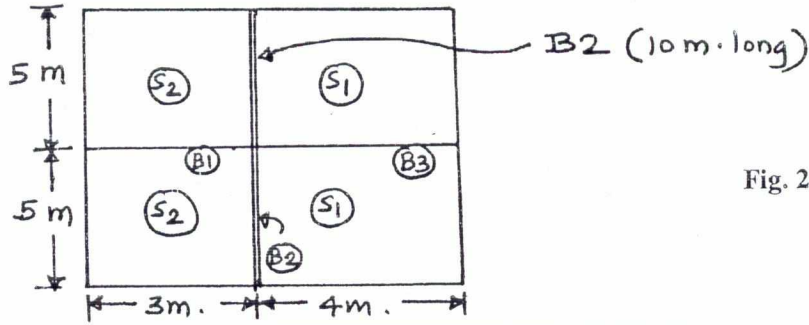

Fig. 2
Q. 2) Carry out the design for the slab S2 & beam B2 (fig. 2). Take Live Load = 3 kN/m^2 , Floor Finish = 1.5 kN/m^2 . Use M20 grade of concrete & Fe415 grade steel. Take all the necessary checks. Draw neat reinforcement diagram. Use Limit State Method. (20 M)